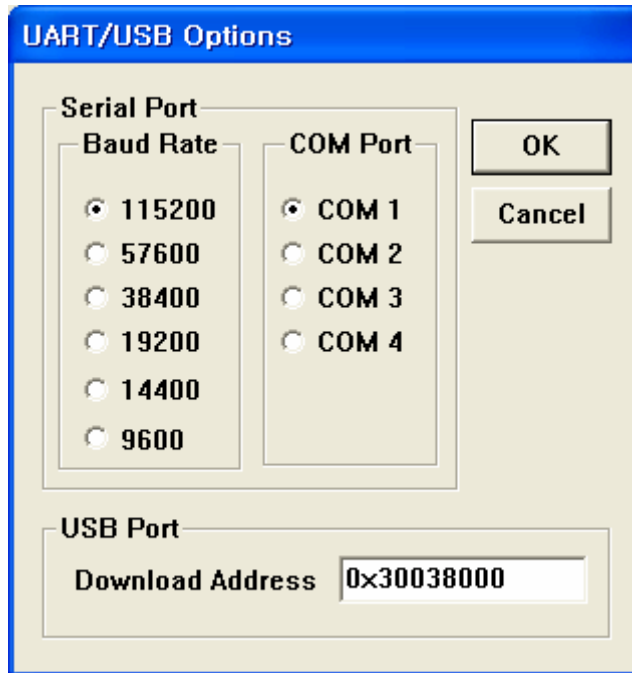

Figure 6-6 UART/USB Options
10. Enter 0 to download and run the Image on the board. DNW window appears as shown in figure 6-6.